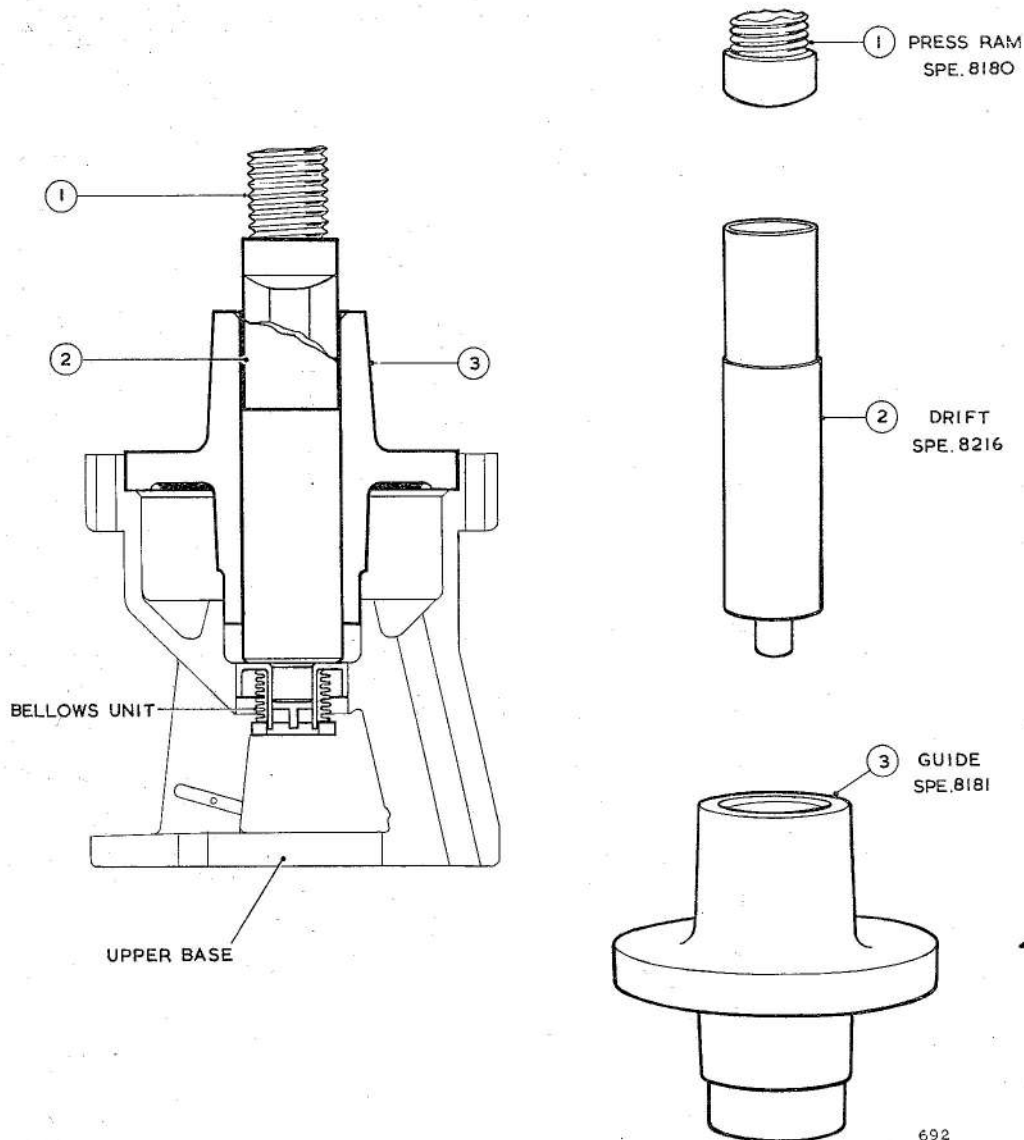

Fig. 3. Removal of bellows gland
- (2) Withdraw the motor unit from the upper base (85) taking care not to damage the armature spindle or the convolutions of the flexible bellows gland.
- (3) Complete the dismantling of the upper base by removing the bellows gland (80) if its sealing face is scored or if there is evidence of leakage past the unit. To remove the gland, pre-heat the casting to approximately 200 deg. F. (92 deg. C.) and use the tools illustrated in fig. 3 to press the gland out of the casting.